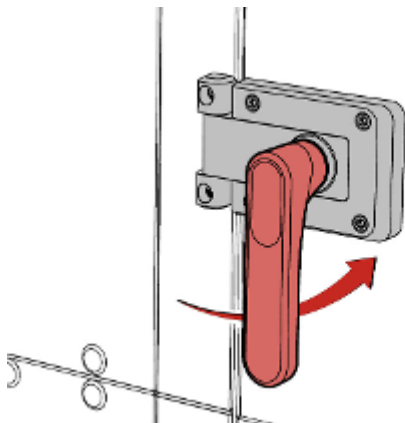

Fig. 52: Inspection access door with lock
- ▶ Turn the door handle anti-clockwise by 90° ( Fig. 52 ).